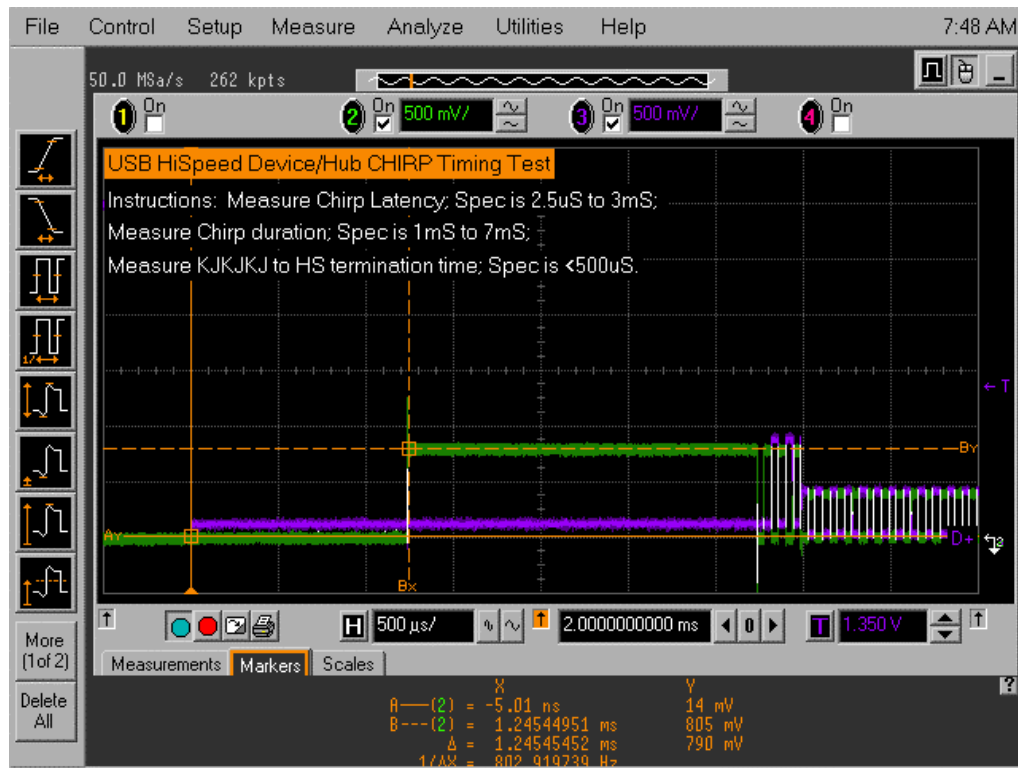

Figure 41. Hub Chirp-K Latency
- a. This measurement can also be made manually with markers, as shown in Figure 41